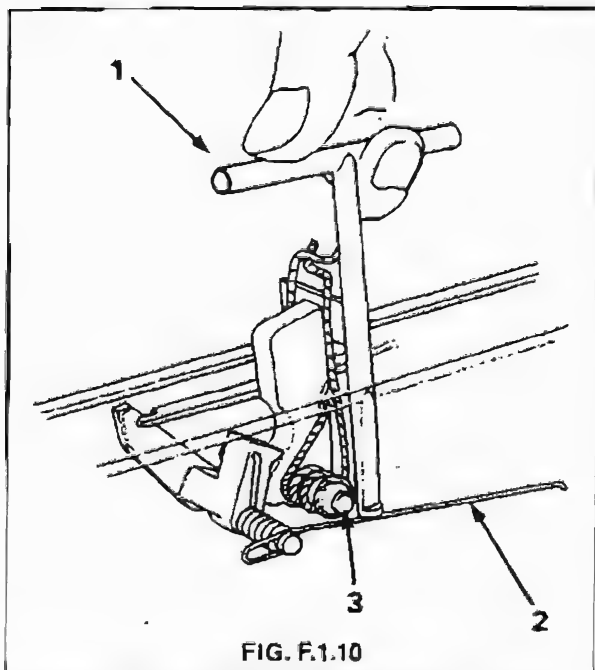

FIG. F.1.10
8. Using the disconnect spring tool, apply pressure to the disconnect spring to force it down out of the groove in the hammer axis pin. See Fig. F.1.10.